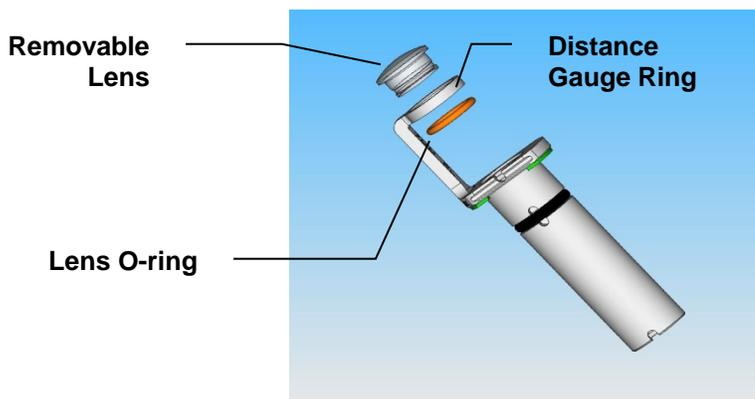

Figure 6.7: PL Distance Gauge Lens
3. The meniscus-shaped lens in the distance gauge ring is held in place by an O-ring. Remove the lens for cleaning by removing the O-ring then holding the edges of the lens and pulling it straight out (Figure 6.7).